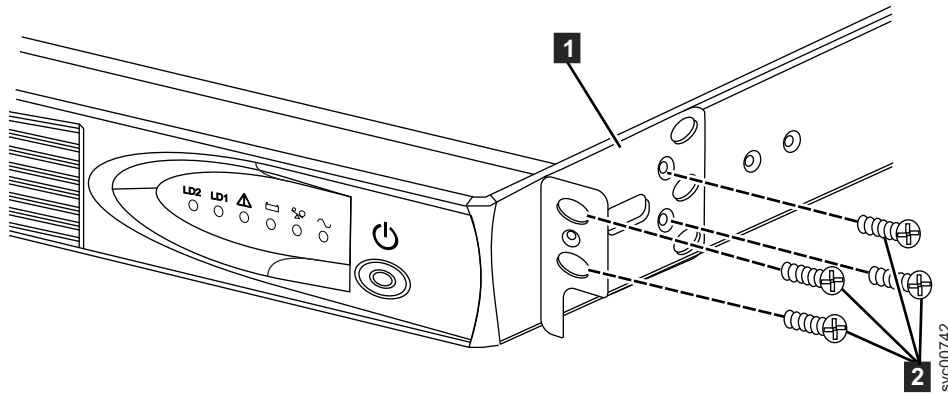

Figure 353. Installing the 2145 UPS-1U mounting brackets for the 2145 UPS-1U
3. Attach the long side of a mounting bracket **1** to each side of the 2145 UPS-1U using four M3 × 6 screws **2** for each bracket, as shown in Figure 353 on page 419.